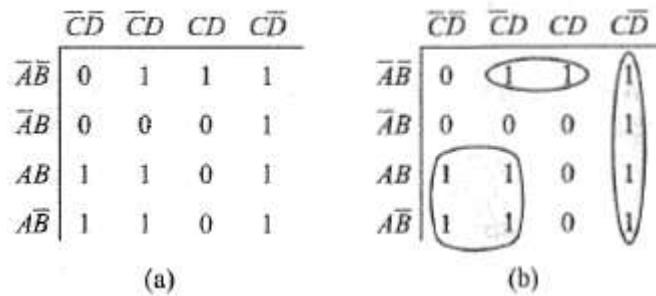

Figure 3.15: Encircling octets, quads and pairs
- In above kmap (Figure 3.15), we have